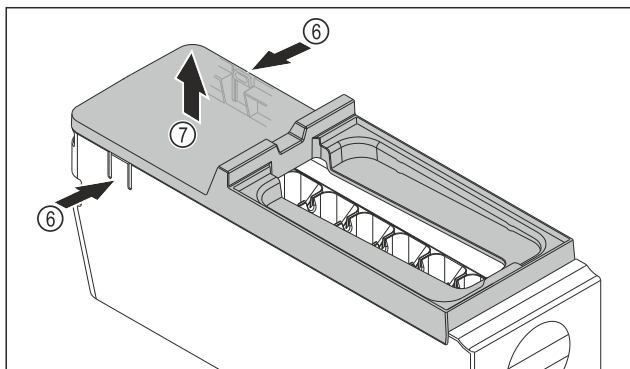

Fig. 137
- Removing the EasyTwist-Ice body cover: Push the tabs Fig. 137 (6) on both sides of the EasyTwist-Ice body with one hand.
- Use the other hand to remove the cover Fig. 137 (7) upwards.